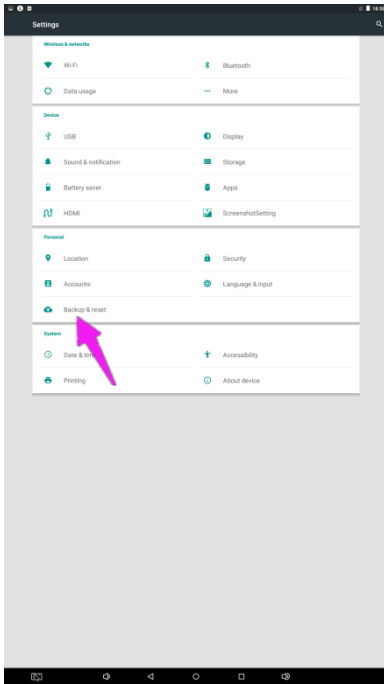

Fig. 1
1. Get into Settings, then click "Backup & reset" (Fig. 1)